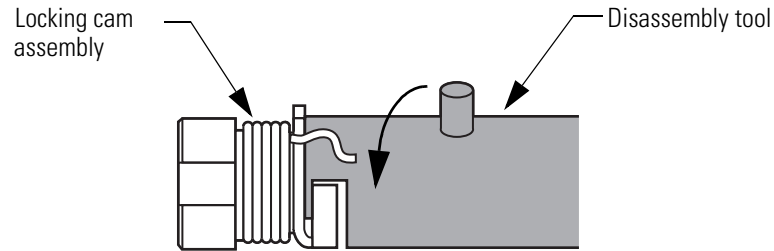

Figure 2.12 Engaging and rotating the disassembly tool
4. Press in on the disassembly tool and turn it counterclockwise until it is engaged between the locking cam assembly and the spring positioner, as shown in Figure 2.12. Gently pull the tool to remove the locking cam assembly from the core receptacle.